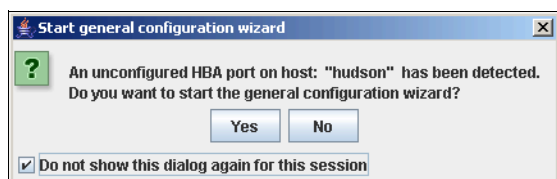

Figure 21-21 SANsurfer - Start general configuration wizard
3. Since our iSCSI adapter has not yet been configured, a message appears that an unconfigured port was detected. Check **Do not show this dialog again for this session** and click **No**. See Figure 21-21.